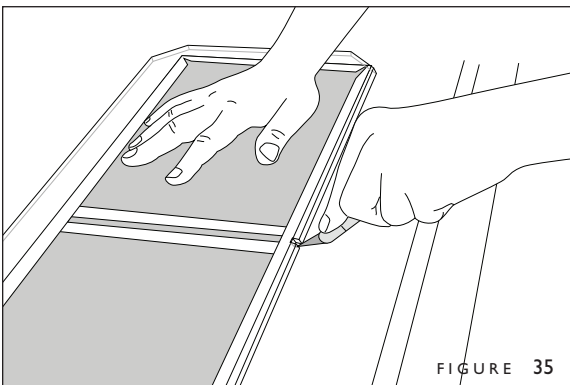

FIGURE 35
5. Center the template over the spine of the Image Back Hardcover with its front edge aligned with the cover's front edge. In the center of the template notch closest to you, cut a slit all the way through the edge of the cover: (Figure 35).